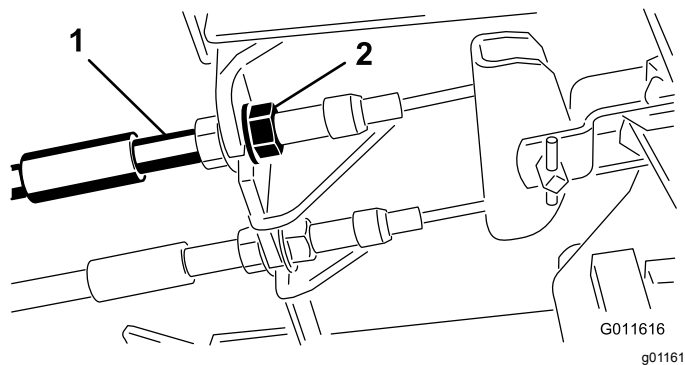

Figure 97
1. To reduce free travel of the brake pedals, tighten the brakes by loosening the front nut on the threaded end of the brake cable (Figure 97).